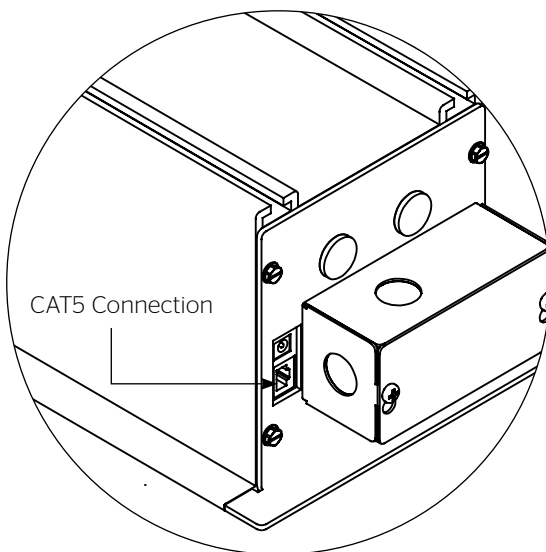

Figure 1
1. Plug your CAT5 cable into connection port located on the left end of the Advantage (Featuring ViewShare Technology) (Figure 1).